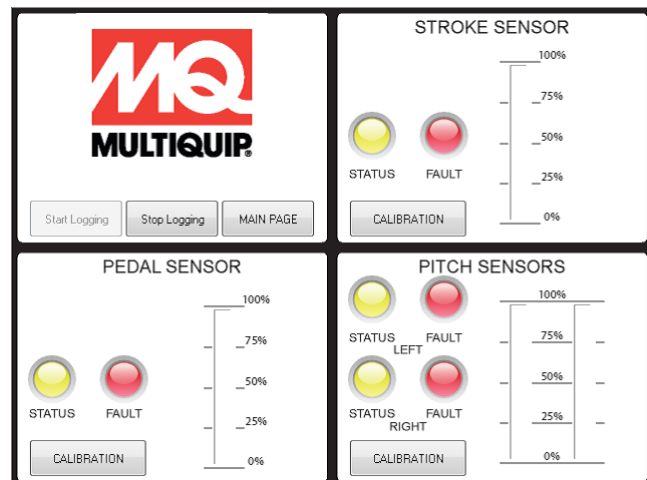

Figure 46. Pitch Sensor Calibration
3. Click "Calibration" button in Pitch Sensors section (Figure 46).